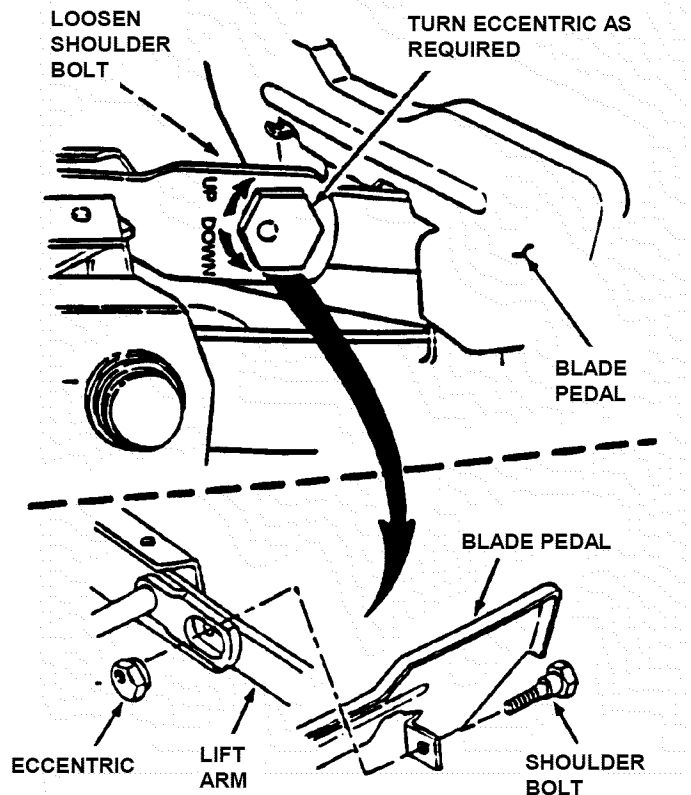

FIGURE 4.4
7. Turn eccentric "UP" or "DOWN" as required until blade tips are within 1/8" of each other. See Figure 4.4.